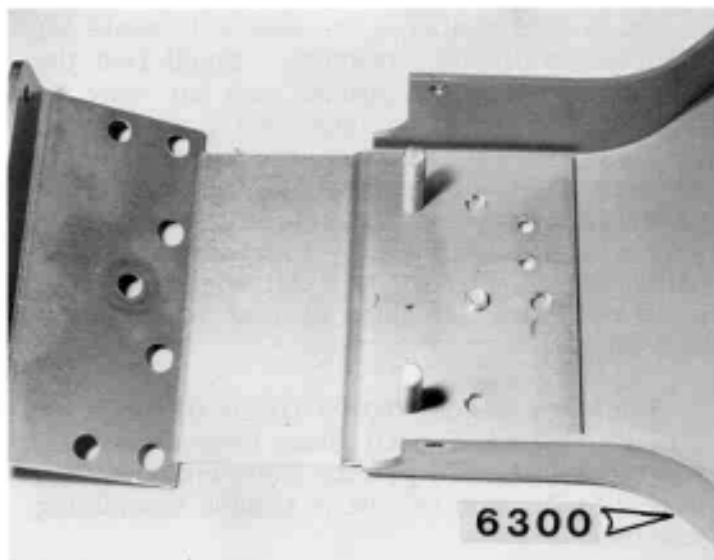

Fig. 2
**Fig. 2** Take the gold aluminum chassis #6300 and install the nose piece as shown, with the #2 Phillips screwdriver. Note that all the chassis screws are aluminum and can be easily damaged by a worn screwdriver. Be sure yours is in good condition.